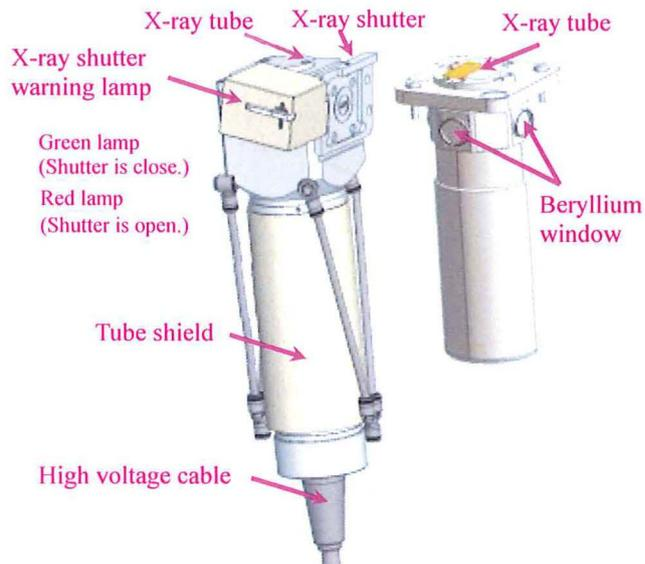

Fig. 1
- An X-ray shutter warning lamp is provided on the X-ray tube (see Fig. 1 and 2). X-rays cannot be generated if disconnection or short circuit occurs in the X-ray shutter warning lamp cable.